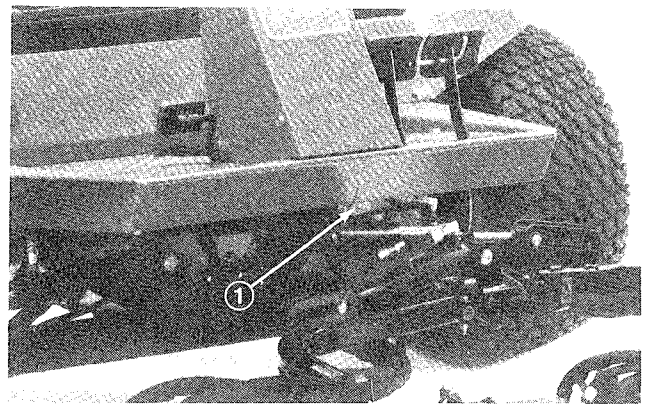

Figure 31
2. Attach a suitable chain, strap or cable to the center of the front frame member (Fig. 31).